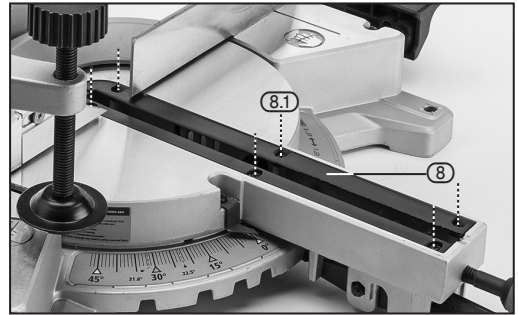

FIG. 36
10.1 TABLE INSERT REPLACEMENT – FIG.36